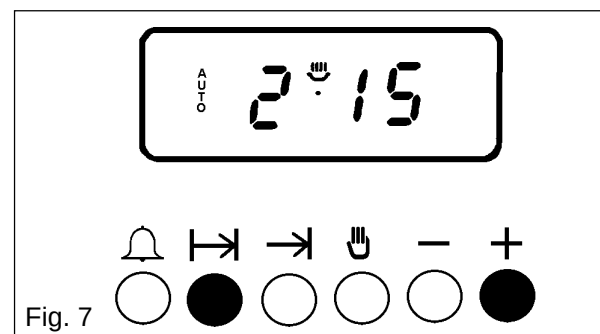

Fig. 7
- To set the length of cooking time, press the cooking hours button (⏸) while holding it down, press the increase control ( + ) until the required length of cooking time is displayed, e.g. 2 hrs 15 mins as Fig. 7. If necessary depress the decrease control ( - ) until the correct time interval is achieved.